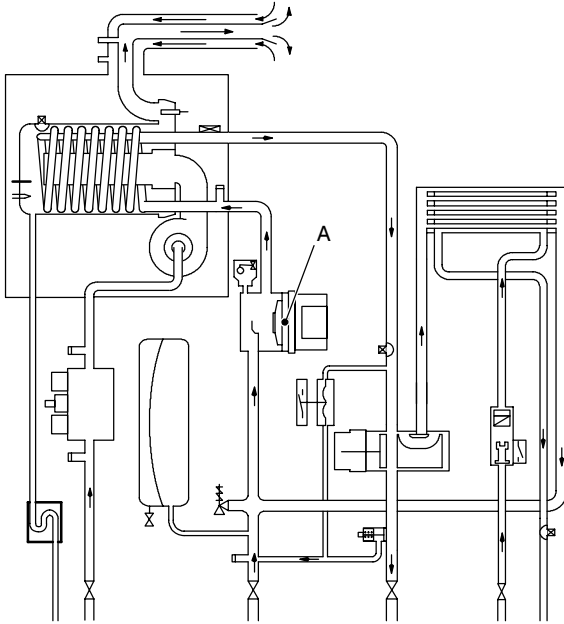
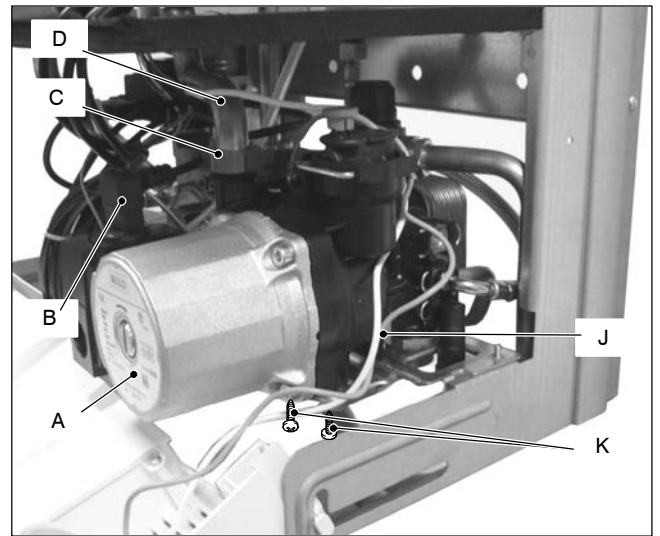

Fig. 7.1
Fig. 7.2
The pump A in Fig. 7.1 and Fig. 7.2 has the function of making the water in the main circuit circulate through the main condensing heat exchanger and therefore through the c.h. system (during the c.h. function) or through the secondary heat exchanger (during the d.h.w. function).
With the boiler off, remove the front panel and disconnect the connector B (Fig. 7.2).
- 4 Disconnect the connector B (Fig. 7.2)(Fig. 7.3).